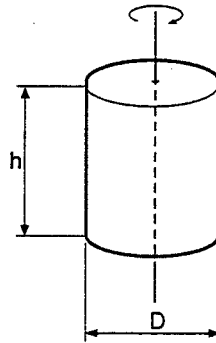

Figure 6-2
The equation for the moment of inertia (J) for a cylinder that has a rotation center such as shown in Figure 6-2 is given below.